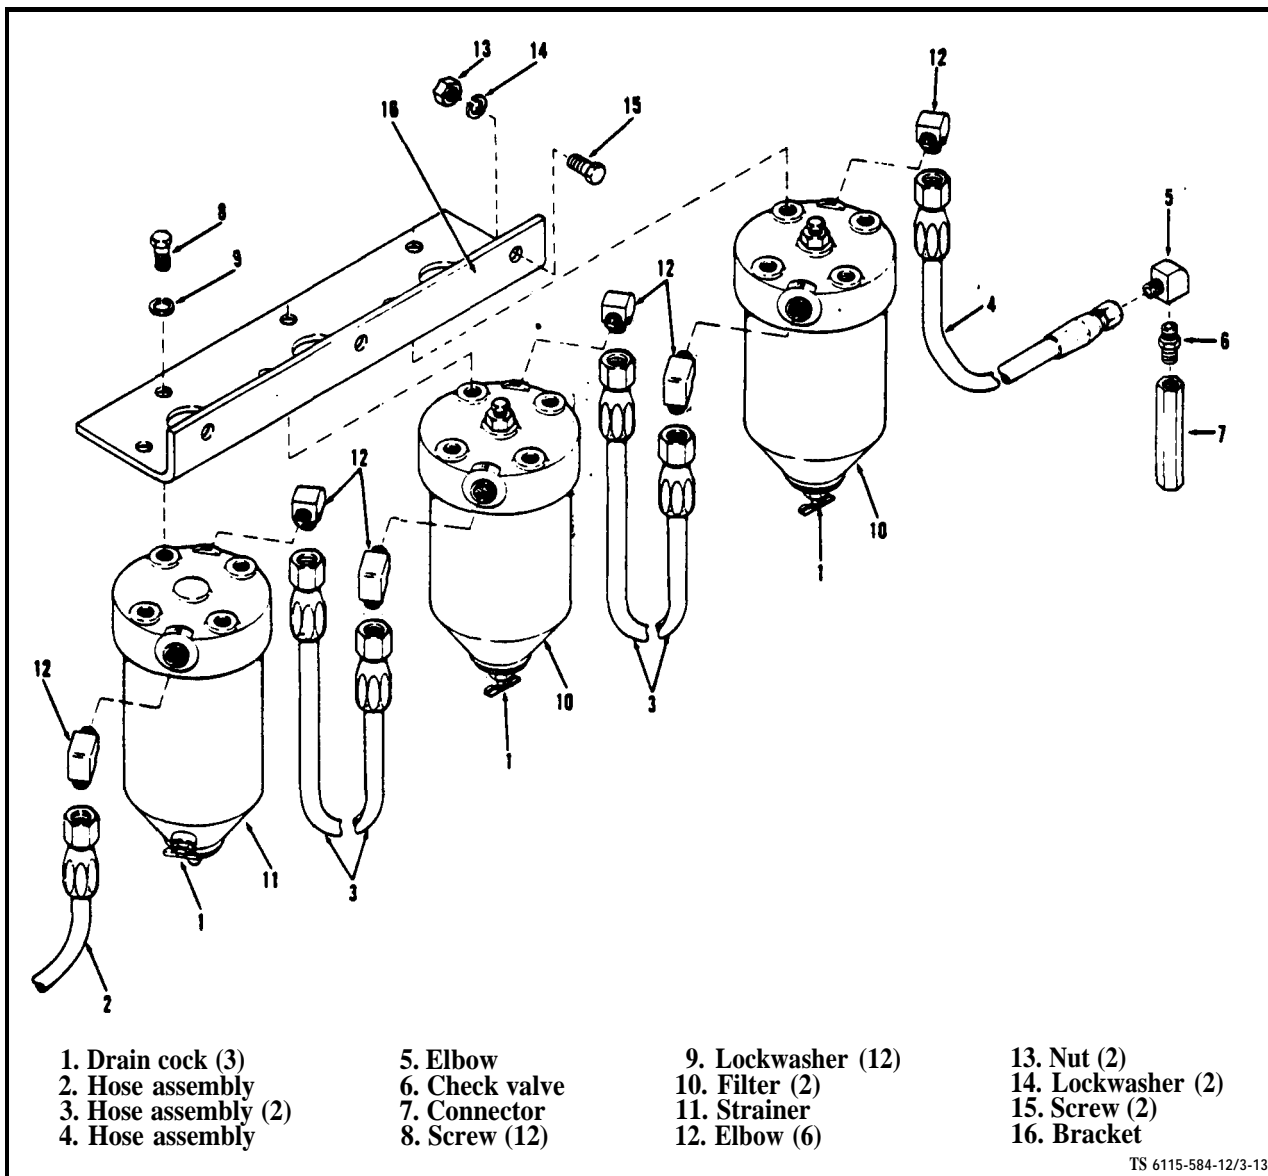

Figure 3-13. Fuel Filters and Fuel Strainer Assembly
(1) **Fuel Filter Assemblies** (see figure 3-13). Inspect iwo fuel filter assemblies (10) for dents or other
(2) **Fuel Strainer Assembly** (see figure 3-13). Inspect strainer assembly (11) for dents or other physical damage. Check for leaks especially around fuel line fittings (12), drain (1), or where the bowl joins the head. Check that strainer assembly (11) is securely attached to mounting bracket (16).
(4) Fuel Hoses. Inspect fuel hoses (2, 3 and 4, figure 3-13) for leaks or physical damage. Check to see that fuel hose fittings are securely tightened in place.
(1) Fuel Filter Assemblies (see figure 3-13). Daily before operation, open drain valves (1) and drain water and sediment from filter assemblies.
(2) Fuel Strainer Assembly. Daily, before and after operation, open drain valves (1) and drain water and sediment from strainer assembly (11).